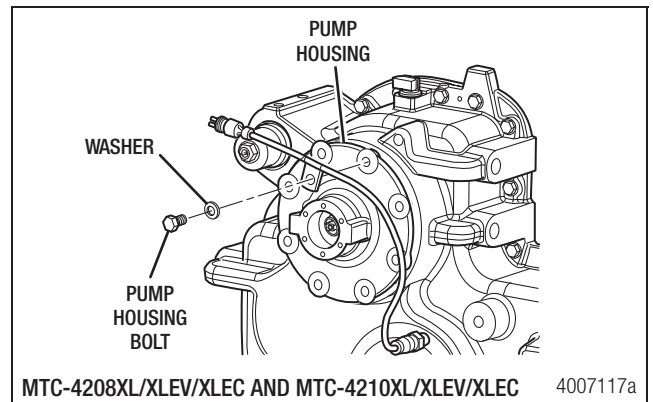

Figure 7.44
- Install the pump housing and align with the transfer case alignment dowels. Tap the cover into place with a mallet. Figure 7.44.